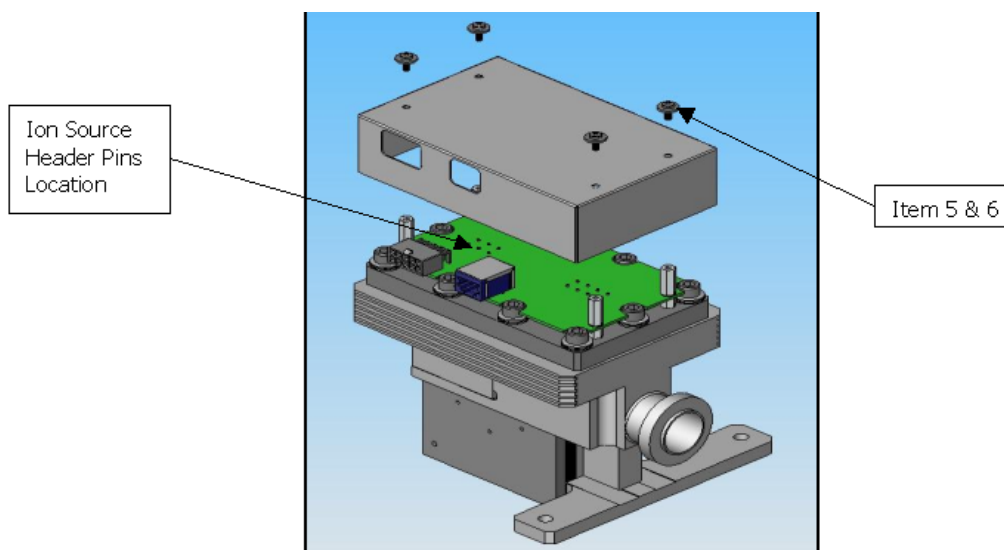

Figure 9: Ion Source Header Pin Locations
22. Place the spectrometer cover over the header and align the holes (Figure 9: Ion Source Header Pin Locations).
23. Install screws and washers (items 5 & 6), then tighten using a M3 Phillips screw driver (Figure 9: Ion Source Header Pin Locations).